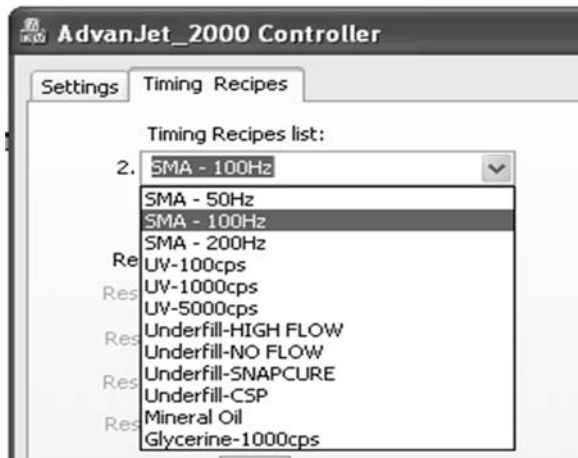

Figure 6-2: Timing Recipes List
**Timing Recipe List:** Up to twelve Timing Recipes can be programmed. Each Timing Recipe should have a distinct and unique name. Since these names will be used to identify fluid values and are used in the recipe list in the Settings screen, a good choice for a name is the specific fluid or material type (SMA-100Hz, UV-100 cps) or part number, as shown in Figure 6-2 at left.